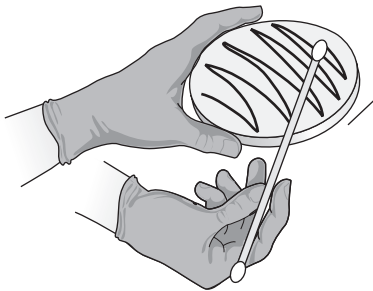

FIG. 10.2.
- Spread the bacteria across the entire surface of the agar plate with the swab. Make sure the swab completely covers the entire surface of the agar. This complete coverage of the agar plate is often called making a lawn (Fig. 10.2).
Agar Plate Preparation. Choose one of the three broth cultures listed above and cover three nutrient agar plates with the culture following the procedure outlined for planting a “lawn” in the UV procedure described earlier. (See Figs. 10.2 through 10.5.)